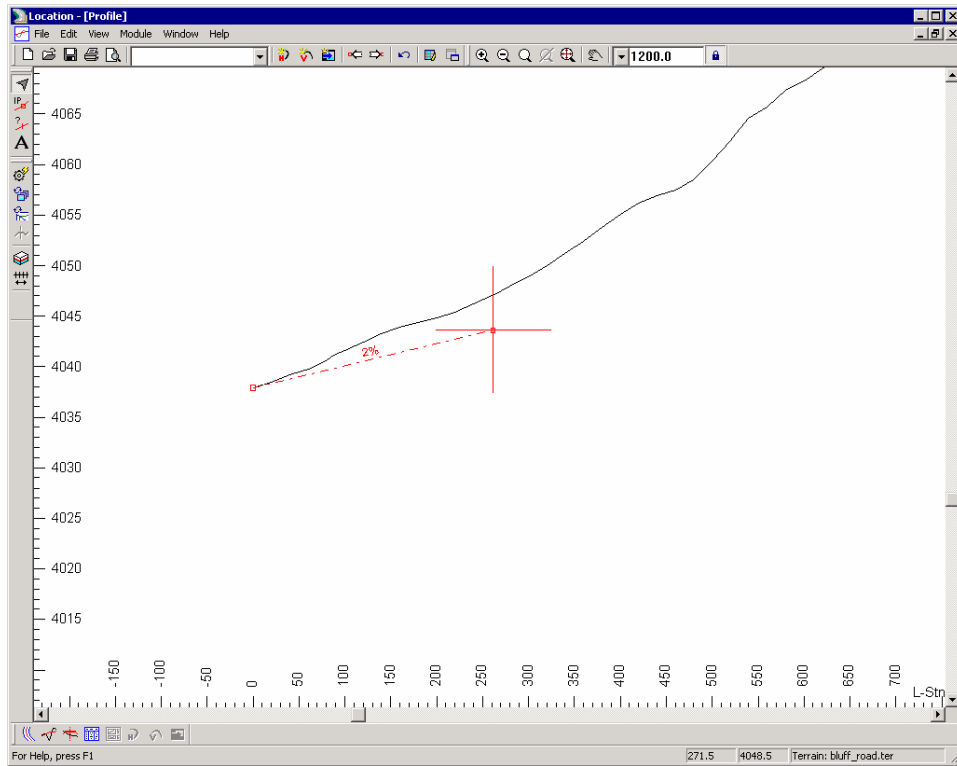

Figure 2.1: 1st Design Point
4. Position your cursor roughly at the cross-hairs location shown in the Figure 2.1.
13. Edit | Undo Profile Point Edit, to move the point back to where it was in Figure 2.1
17. Move the new captured point to the position shown in Figure 2.1 and left click to anchor it.